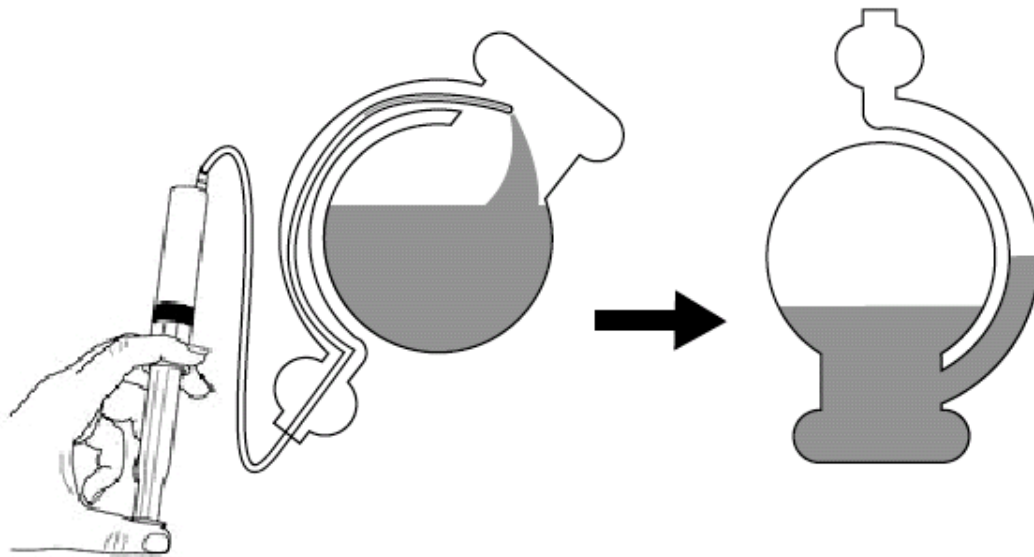

Figure 1
5. Slowly inject the liquid into the storm glass until half of the bulb is filled, as shown in Figure 1 (your glass figure may vary).